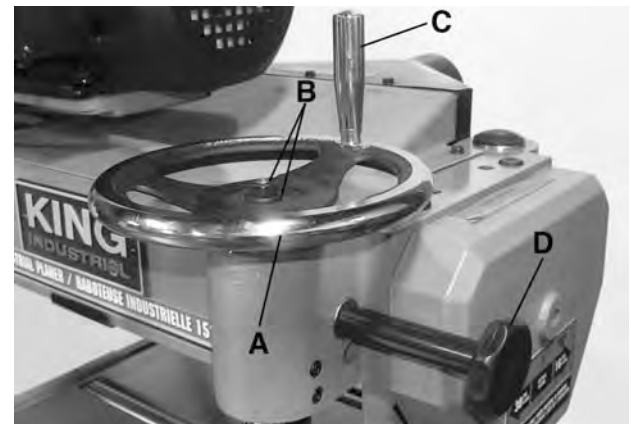

FIGURE 5
1. Insert key into keyway of raising and lowering shaft (refer to B Fig.5) and slide handwheel (A) Fig.5 onto raising and lowering shaft. Make sure key is engaged with keyway in hub of handwheel.
2. Fasten handwheel (A) Fig.5 to raising and lowering shaft using a large washer and hex. nut (B) supplied.
3. Assemble handle (C) Fig.5, to handwheel (A) as shown.
4. Loosen two head locking knobs, one of which is shown at (D) Fig. 5, and turn handwheel clockwise to raise head assembly.